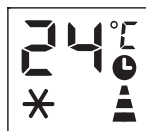

Fig. 5
- When the appliance is running, press the ⌚ button, the screen will display hours, and several symbols are flash together. (fig 5)